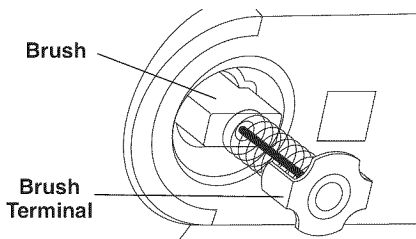

Figure 39. Motor Brush
3. Pull out the brush (Figure 39). Repeat for the opposite side.
5. Install new brush. The two (2) tabs on the brush terminal go in the same hole the carbon part fits into.